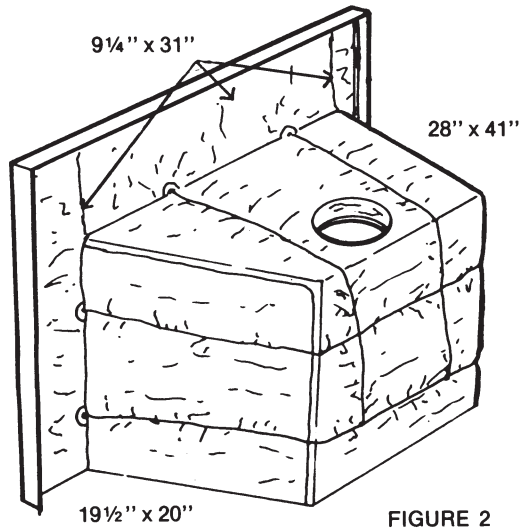

FIGURE 2
1. Wrap the fibreglass insulation supplied around the Flushmount as illustrated in figure 2.
2. Secure the fibreglass in place by tying the wire (supplied) to the washers on the side of the firebox. Loop wire around the back of the firebox and fasten to the washers on opposite side. Tie wires to the top washers on firebox and fasten to lower horizontal wire on back. Cut away the insulation and foil blocking the flue with a sharp knife. (See Figure 2)
- 4M. Pack the rear of the faceplate with the fibreglass insulation provided. (See Figure 2). Now push the Flushmount tight against the fireplace facing.